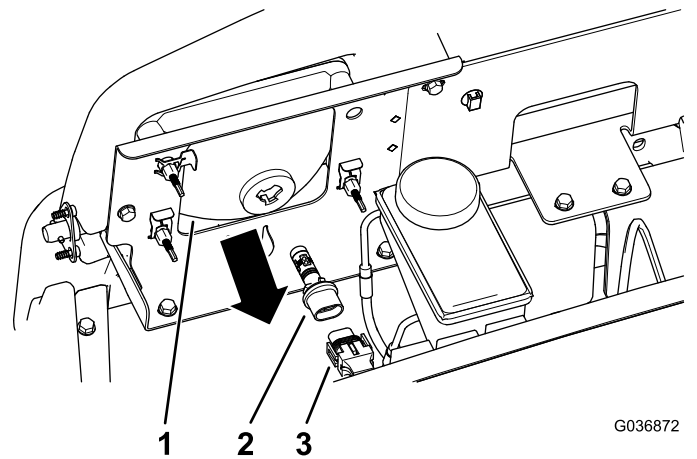

Figure 38
3. Disconnect the electrical connector for the harness from the connector of the lamp assembly at the back of the headlight housing (Figure 38).
4. Rotate the lamp assembly 1/4 turn counterclockwise and moving it rearward, out of the headlight housing (Figure 38).
5. Insert the new lamp assembly and headlight housing and align the tabs in the lamp assembly with the slots in the headlight housing (Figure 38).
6. Secure lamp assembly by turning it 1/4 turn clockwise (Figure 38).
7. Connect the electrical connector for the harness to the connector of the new lamp assembly (Figure 38).